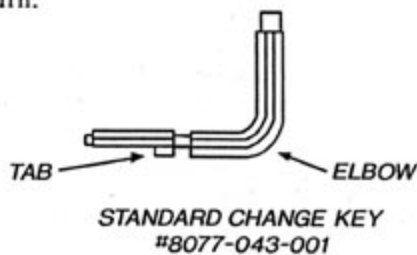

Figure 6
- Step 11 – Turn the change key ninety degrees counterclockwise, and pull it straight out of the padlock. Do not turn the key as it is being withdrawn, and make sure the dial does not move off "25." As soon as the reset key is withdrawn, insert the standard change key (tip first) into the padlock's change key hole. The standard change key is properly seated when the tab on the key is fully inside the lock (Figure 6). Turn the key clockwise one-quarter turn.